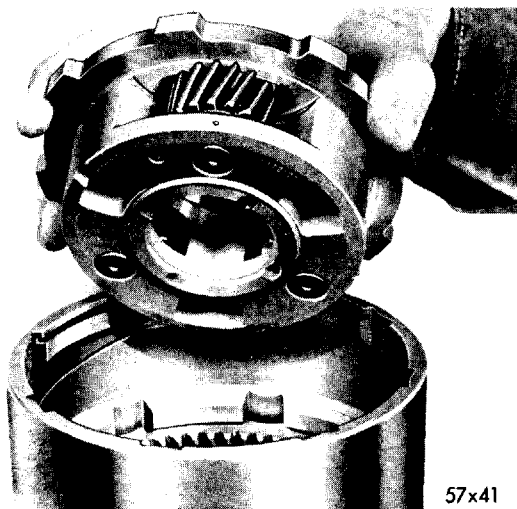

Fig. 27—Removal and Installation of Reverse Planet Pinion Carrier Assembly
(6) Remove the reverse planet pinion carrier from the carrier housing, as shown in Figure 27. Remove the